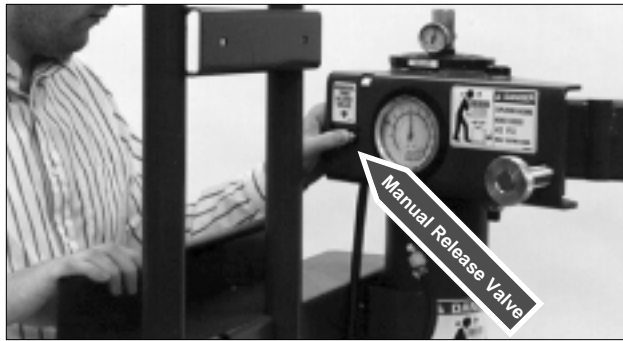

Figure 18 - Location of Manual Release Valve
U. Release air pressure from tire by pressing the manual release valve button (inflation hose must be attached to the valve stem, Figure 18).